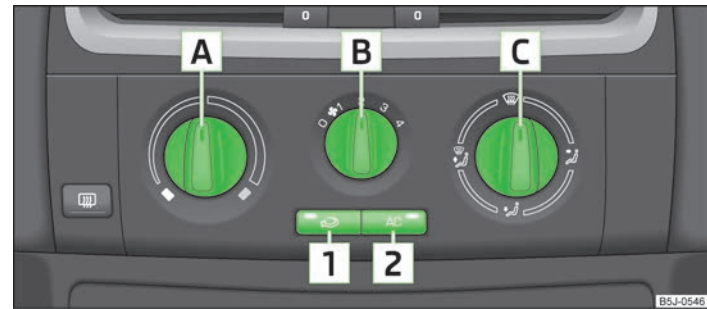

Fig. 79 The air conditioning system: Control elements
The cooling system only operates if the button **AC** **2** » Fig. 79 on page 73 is pressed, and the following conditions are met:
- › Turn the control dial **A** » Fig. 79 to the right to increase the temperature.
- › Turn the blower switch **B** » Fig. 79 into one of the positions, 1 to 4, to switch the blower on.
- › Press the button **1** to close the fresh air supply » Fig. 79.
- › The direction of the inlet air flow is controlled with air distribution regulator **C** » Fig. 79 » page 71.
- › Press the button **AC** **2** » Fig. 79 and the warning light in the button illuminates.
- Controls **A** » Fig. 79 on page 73, **B**, **C** and buttons **1** and **2**.
- Press the button **1** » Fig. 79 on page 73 again - the warning light in the button goes out.
Recirculated air mode is switched off automatically if the air distribution control **C** » Fig. 79 on page 73 is turned to position . Recirculated air mode can be switched on again from this setting by repeatedly pressing the button .
- Press the button **1** » Fig. 79 on page 73 and the warning light in the button illuminates.